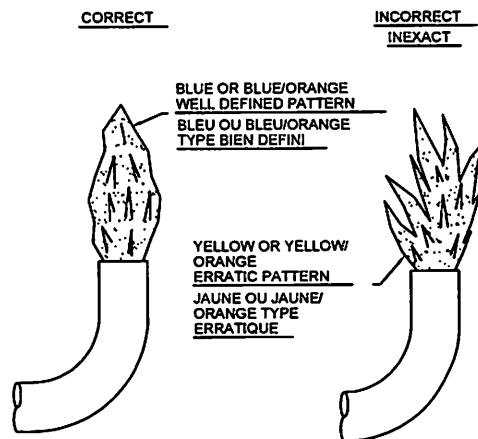

Figure 15
**A. Main Burner:** Do not allow the burner to burn with a yellow flame, because sooting will occur. (See Safety Warnings). If the burner flame is yellow and has an erratic pattern, shut unit down and contact a qualified service agency. Do not continue operating unit with improper burner flame. (See Figure 15 for correct and incorrect burner flame appearance.)